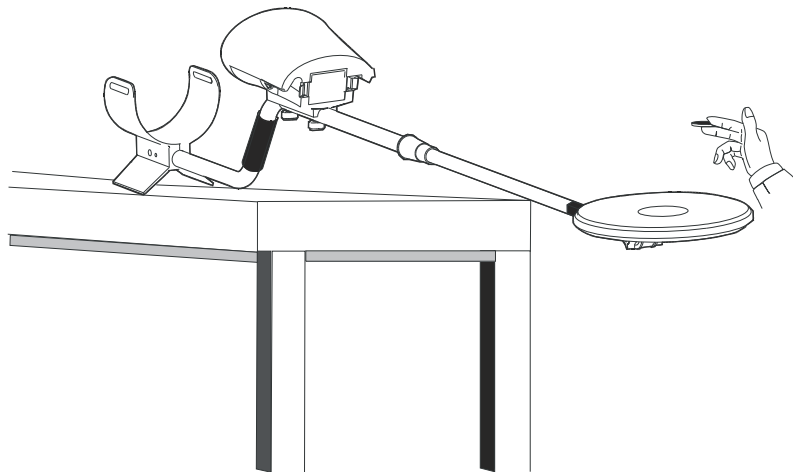

Fig. 9
- In order to avoid the metals influencing the detector, be sure to lay the the metal detector properly. Place the detector on a wooden or plastic table. Let the search coil exceed the table edge about more than 15cm, and adjust the search coil so that the flat part points upwards.(Fig 9)